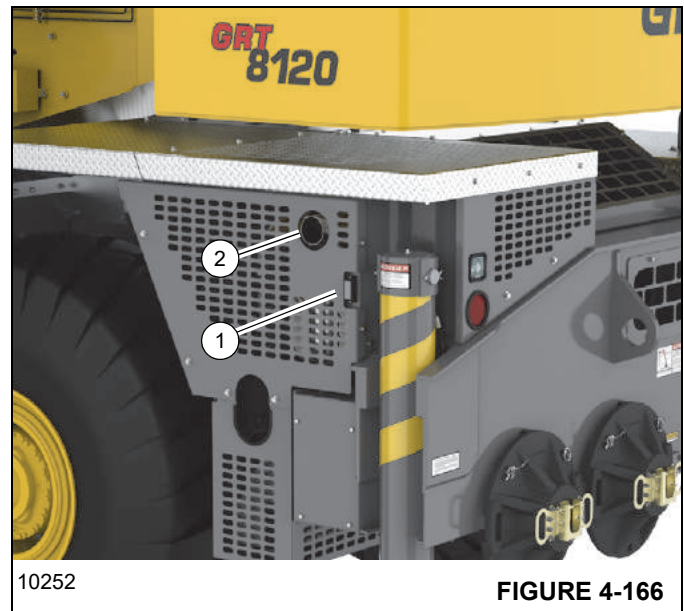

FIGURE 4-166
As a warning, the strobe light (1, Figure 4-166) near the exhaust pipe (2) will flash during exhaust system cleaning.